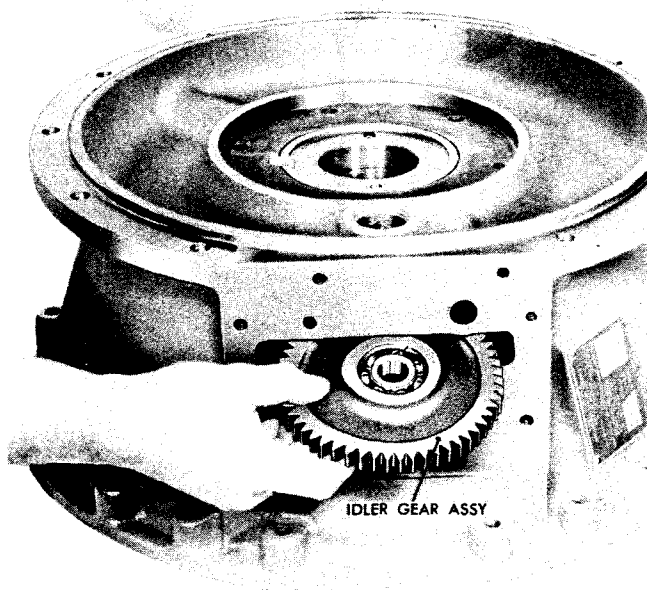

Fig VI-30. Removing (or installing) oil-pump idler gear assembly
(3) Remove the shaft, being careful that the oil pump idler gear does not drop out of the housing.
(4) Remove the oil pump idler gear assembly (fig. VI-30). Do not remove the ball bearing from the gear.
housing bore (fig. VI-30), and installing oil pump idler gear shaft (18, fig. VI-27) in its bore. Use a soft drift or a bolt of the proper size threaded into the shaft and tap the shaft into place.